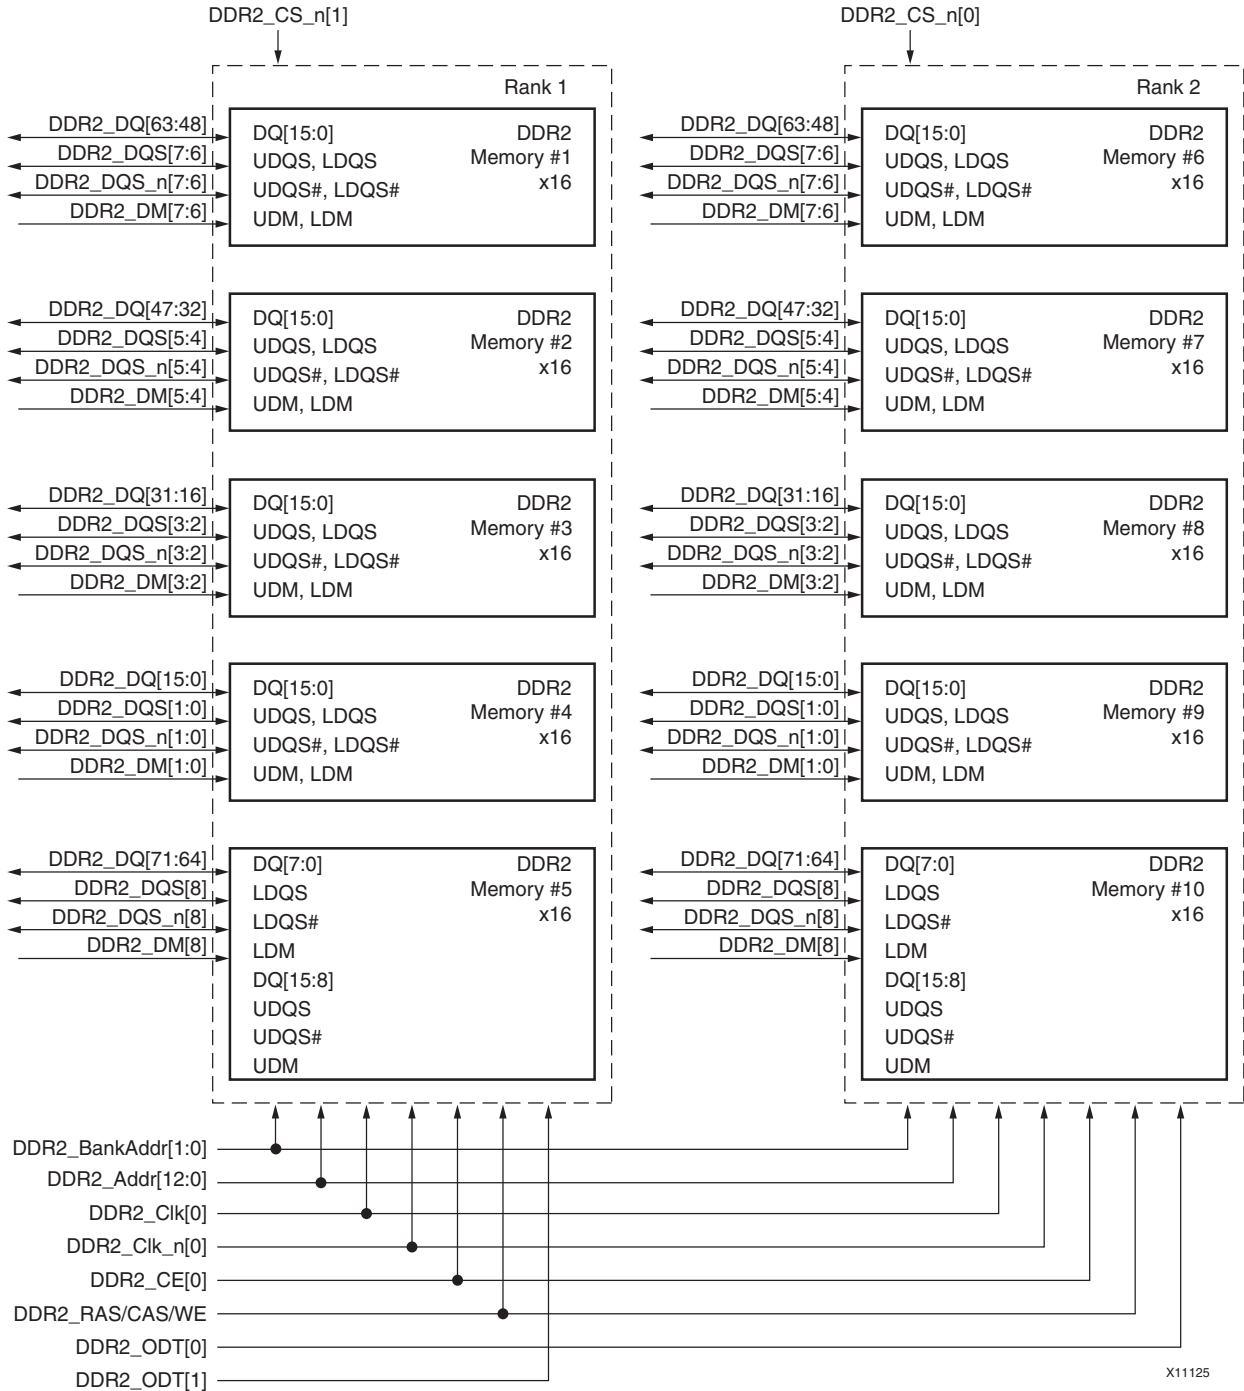

Figure 10: Example DDR2 Memory Connections
The example in Figure 10, page 81 has the following specified parameters:
- Within a particular rank, the signals DDR2_CS_n and DDR2_ODT are connected to each memory in the rank. Some memory manufactures have specific recommendations for how these signals should be connected. For example, when using a dual rank DIMM, the recommendation might be to assert DDR2_ODT on the same rank that DDR2_CS_n is asserted (as shown in Figure 10, page 81). Other recommendations might be to assert DDR2_ODT on to opposite rank that the DDR2_CS_n is asserted, which can be achieved by swapping DDR2_ODT[0] and DDR2_ODT[1].